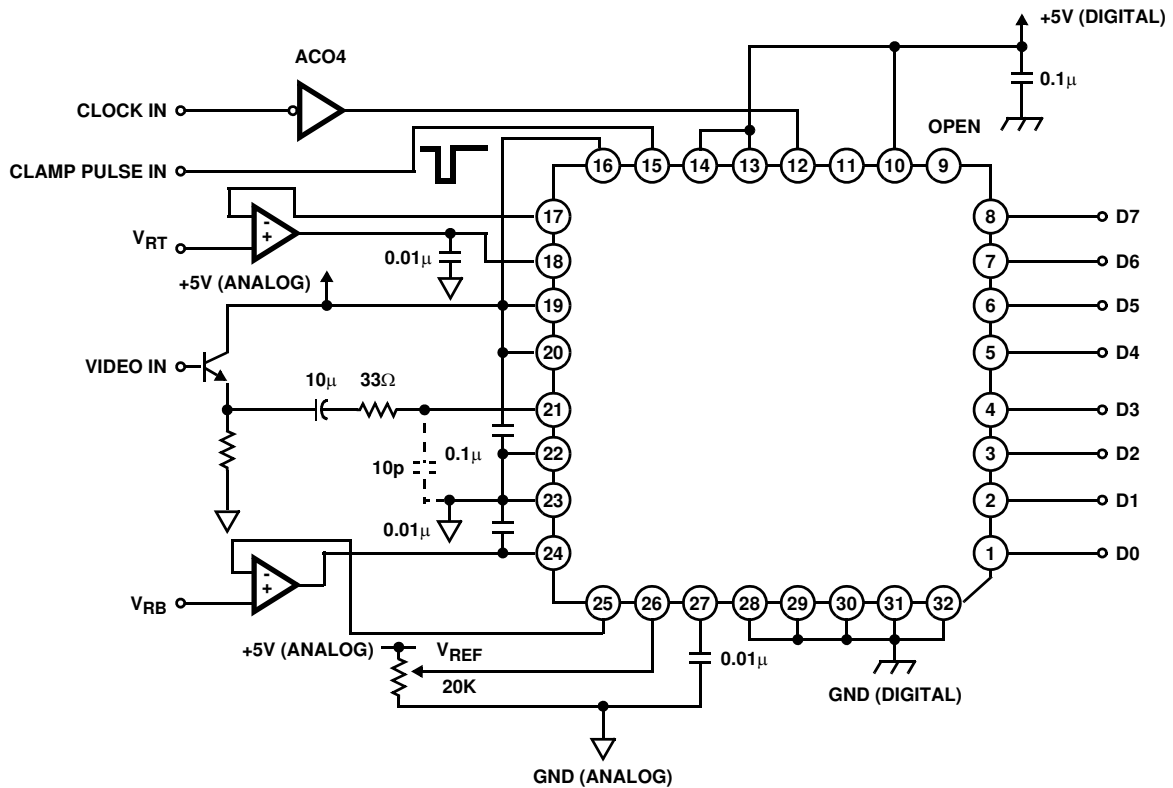

FIGURE 10. WHEN CLAMP IS USED (SELF-BIAS NOT USED)
- The HI2302 is a two-step parallel system A/D converter featuring a 4-bit upper comparator block and two lower comparator blocks of 4-bit each. The reference voltage that is equal to the voltage between $V_{RT} - V_{RB}/16$ is constantly applied to the upper 4-bit comparator block. Voltage that corresponded to the upper data is fed through the reference supply to the lower 4-bit comparator block. Voltage that corresponded to the upper data is fed through the reference supply to the lower 4-bit comparator block. V_{RTS} and V_{RBS} pins serve for the self generation of V_{RT} (reference voltage top) and V_{RB} (reference voltage bottom), and they are also used as the sense pins as shown in the Application Circuit examples Figures 10 and 11.
- The operation of respective parts is as indicated in the Timing Chart II. For instance, input voltage V_I (1) is sampled with the falling edge of the external clock (1) by means of the upper comparator block and the lower comparator A block. The upper comparator block finalizes comparison data MD (1) with the rising edge of the external clock (2). Simultaneously the reference supply generates the lower reference voltage RV (1) that corresponded to the upper results. The lower comparator A Block finalizes comparison data LD (1) with the rising edge of the external clock (3). MD (1) and LD (1) are combined and output as Out (1) with the rising edge of the external clock (4). Accordingly there is a 2.5 clock delay from the analog input sampling point to the digital data output.